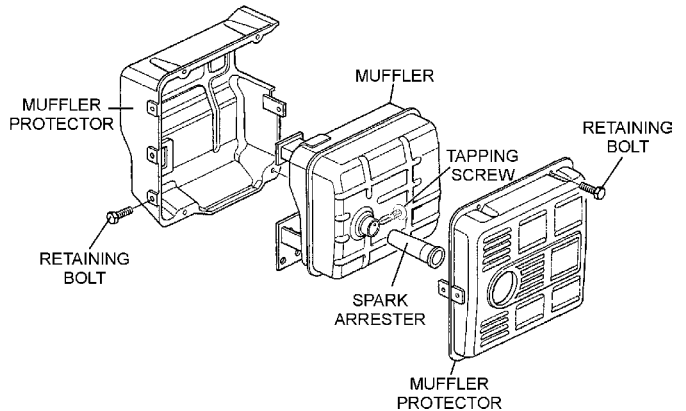

Figure 34. Spark Arrester Removal
1. Remove the muffler protector retaining bolts (Figure 34), then remove muffler protector.